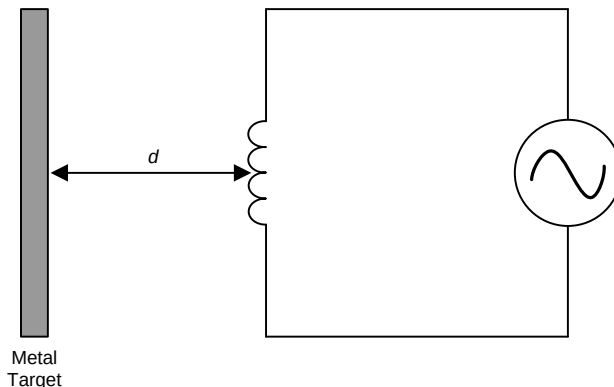
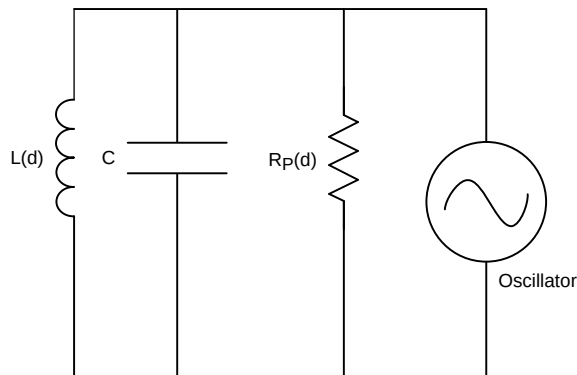

Figure 5. Inductor with a Metal Target
Figure 8. Equivalent Resistance of r_s in Parallel With LC Tank
An alternating current (AC) flowing through a coil generates an AC magnetic field. If a conductive material, such as a metal target, is brought into the vicinity of the coil, this magnetic field induces circulating currents (eddy currents) on the surface of the target. These eddy currents are a function of the distance, size, and composition of the target. These eddy currents then generate a magnetic field that opposes the original field generated by the coil. This mechanism is best compared to a transformer, where the coil is the primary core and the eddy current is the secondary core. The inductive coupling between both cores depends on distance and shape. Hence the resistance and inductance of the secondary core (eddy current), shows up as a distant dependent resistive and inductive component on the primary side (coil). Figure 5 through Figure 8 show a simplified circuit model.
The LDC1000-Q1 device does not directly measure the series resistance. Instead, the device measures the equivalent parallel resonance impedance R_p (see Figure 8). This representation is equivalent to the representation shown in Figure 8, where the parallel resonance impedance $R_p(d)$ is given by Equation 1.